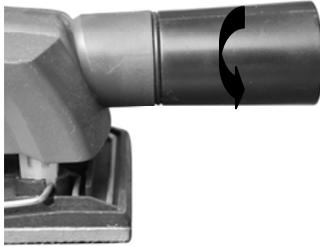

Fig.4
2. Then turn to the left to lock in place. (Fig.4)